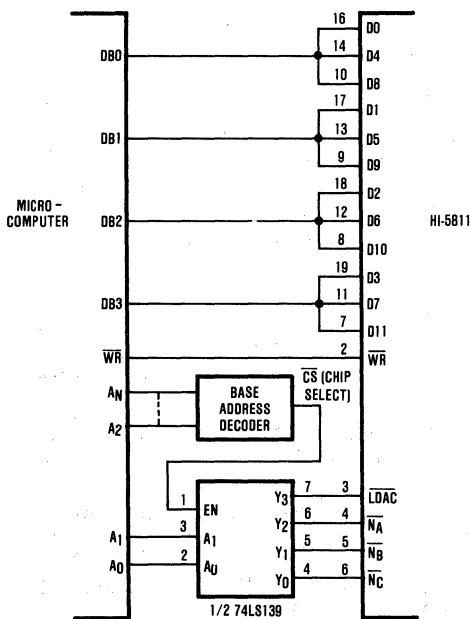

FIGURE 8. ADDRESSING AND CONTROL FOR 4-BIT MICROCOMPUTER INTERFACE.
An interface to a 4-bit microcomputer is shown in Figure 8. Each HI-5811 occupies four address locations. A 74LS139 provides the two to four decoder and selects these with the base address. Memory Write (WR) of the microcomputer is connected directly to the WR pin of the HI-5811. A 8205 decoder is an alternative device to use instead of the 74LS139.